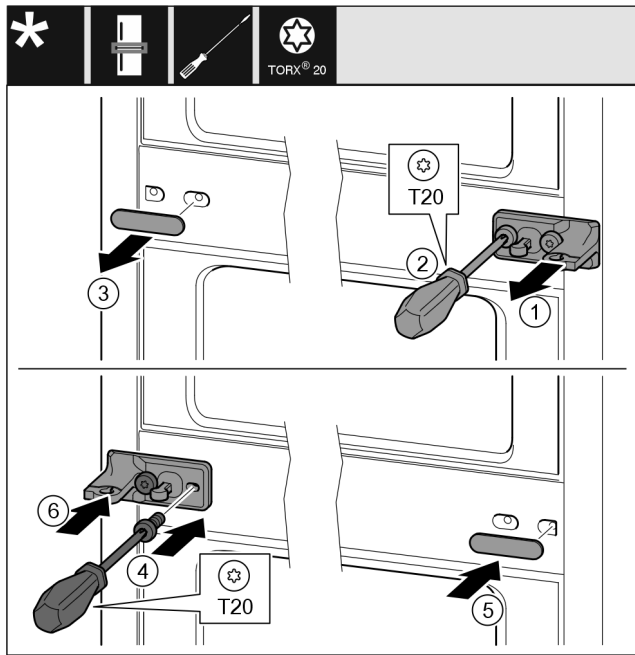

Fig. 33
- ▶ Remove the washer. Fig. 33 (1)
- ▶ Remove the screws with the T20 screwdriver. Fig. 33 (2)
- ▶ Remove the cover carefully. Fig. 33 (3)
- ▶ Screw the bearing bracket and the film rotated 180° firmly onto the other side. Fig. 33 (4)
- ▶ Attach the cover rotated 180° onto the other side. Fig. 33 (5)
- ▶ Push the washer in from the front. Fig. 33 (6)